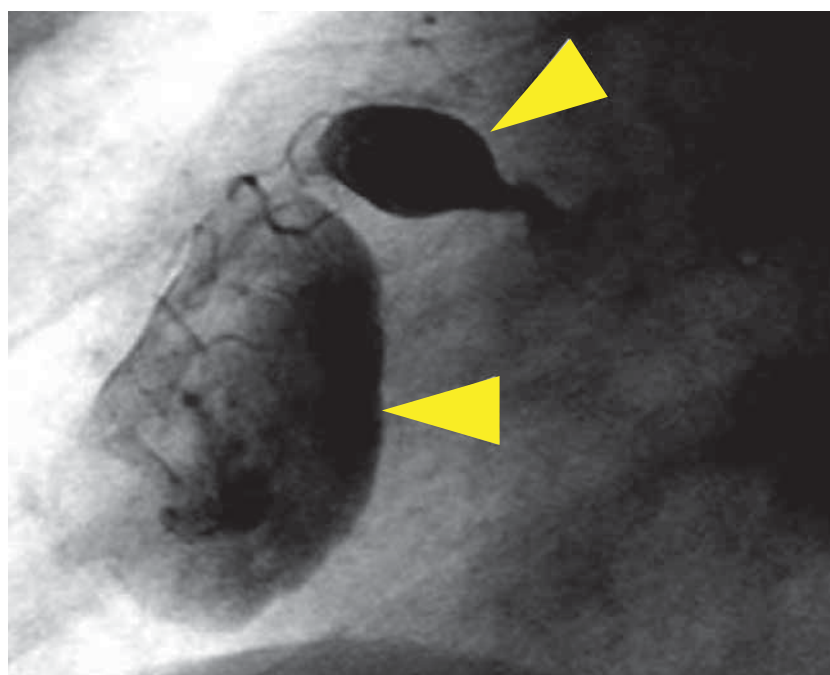

Figure 1: Consequences of untreated—or treatment-resistant—Kawasaki disease can include the formation of giant coronary aneurysms.
Kawasaki disease (KD) is an inflammatory disorder of the blood vessels, most frequently observed in infants and young children. Left untreated, KD can have severe health consequences (Fig. 1), and it is currently the leading cause of acquired heart disease for children in the developed world.